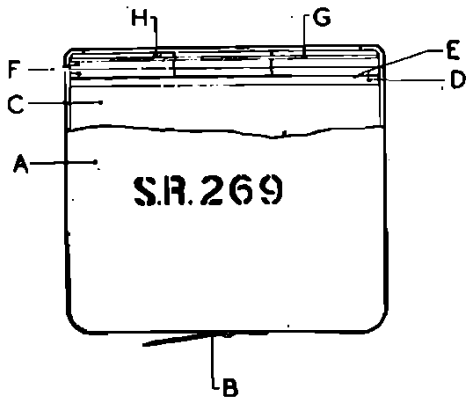

Figure 94
The smoke-generator is the Generator, Smoke, No. 8, Mark IV. This consists of a steel body (A, Fig. 94) with a lifting strap (B) welded to it, containing a smoke composition (C) with a layer of igniter composition (D) spread evenly over it and covered by a primed muslin disc (E). Two strawboard discs (F) centrally apertured, a cellulose acetate disc (G) and a steel closing disc (H) also centrally apertured are then inserted and the body turned over at the edge. The joint is watertight. The exterior of the generator, with the exception of the exposed cellulose acetate, is painted light green with SR 269 stencilled on the side and the contractor's markings, date and lot number marked on the base. The generator weighs $4\frac{1}{2}$ lbs. approximately and emits smoke continuously for a period of $1\frac{1}{4}$ to $1\frac{3}{4}$ minutes, commencing from a few seconds of firing the discharger.